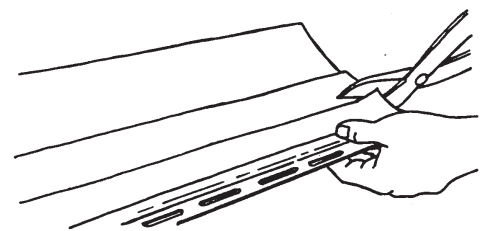

Figure 20
- With tin snips, avoid closing the blades completely at the end of a stroke for a neater, cleaner cut (Figure 20).